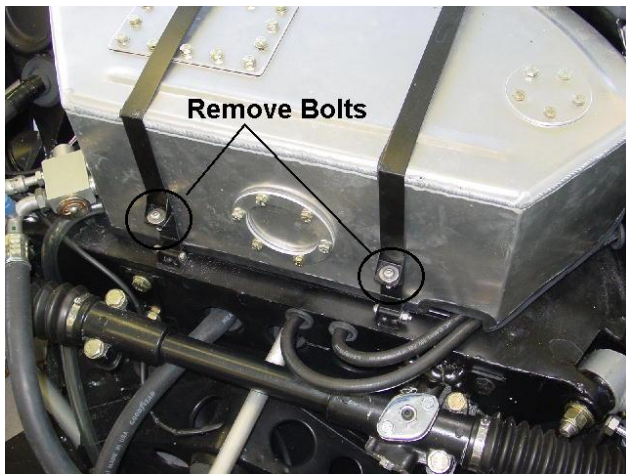

Fig. 7
3. Remove the bolts that hold the A/C cover straps in place. *Fig. 7* Swing the brackets out of the way and lift the cover off.